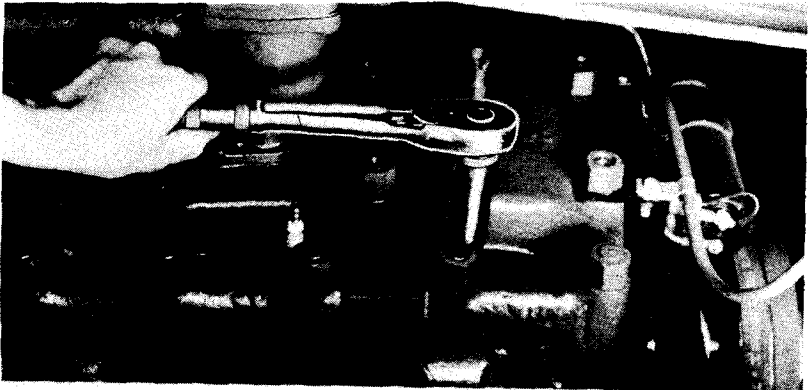

Figure 71—Removing Spark Plug
(2) Remove spark plugs, clean, and check gaps with a round feeler gage every 500 miles. Use a resistance tester every 4,000 miles. Set gap at 0.025 inch.
c. **Removal and Installation.** Pull high-tension cables from plug snap terminals. Unscrew and remove spark plugs and gaskets. To install, place a new copper gasket over threaded end of spark plug. Screw in plug using spark plug wrench or tension wrench (fig. 71). Snap high-tension wires on proper plugs.